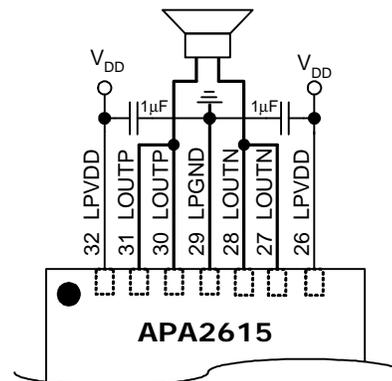

Figure 5. APA2615 Output Topology
2. The output traces should be short, wide, (>50mil) and symmetric, and this loop like the figure 5, should be as small as possible, (this loop is high slew rate and high current path).